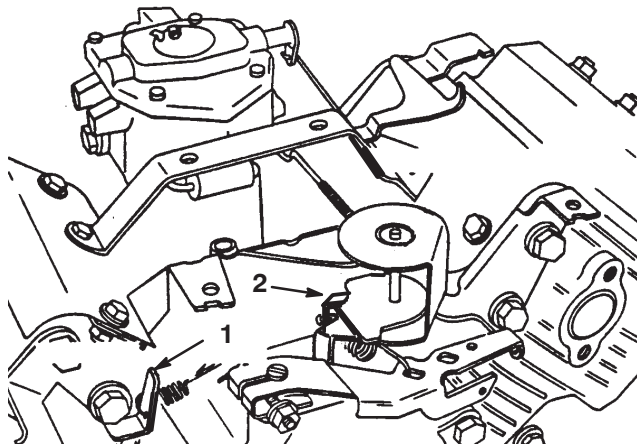

Figure 49
- Bend the governed idle spring anchor tang (Fig. 49) to attain an idle speed of 1625 ± 50 RPM. Check the speed with a tachometer.
- Move the throttle control to the Fast position. Bend the high speed spring anchor tang (Fig. 49) to attain a high speed of 2850 ± 50 RPM.